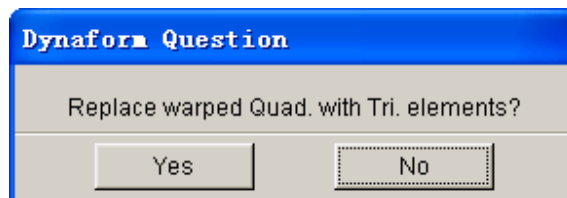

Figure 5.6.6 DYNIFORM Question Window
2. If there are any failed elements, a DYNIFORM QUESTION window appears as in Figure 5.6.6.